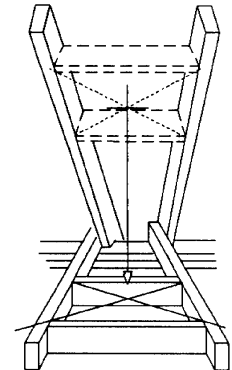

Figure 4
3. Hold a plumb bob from the underside of the roof to determine where the opening in the roof should be. Cut and frame the roof opening to maintain proper 2" (50 mm) clearances (figure 4).